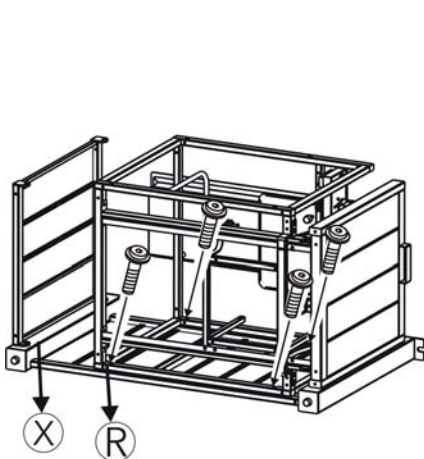
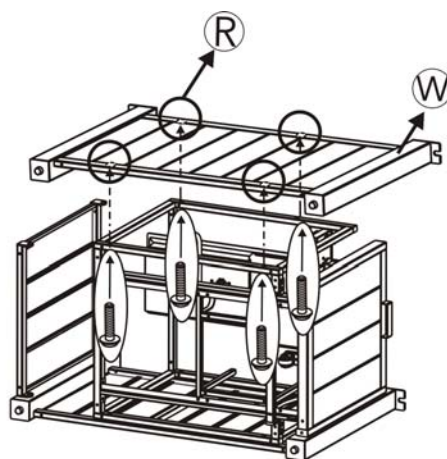
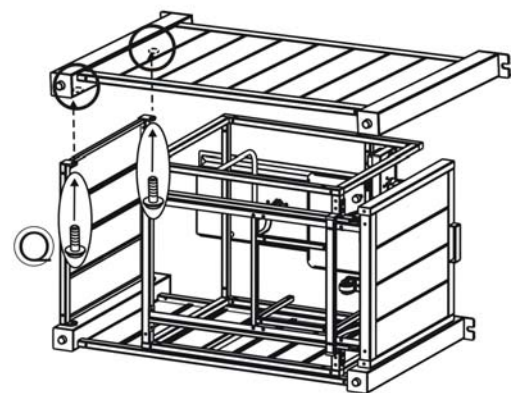

Figure 4a
Figure 4b
Figure 4c
3. Attach the fire pit base connector bracket to the right panel(X) by using four 1/4" x30 mm bolts(R) in Figure 4a. Attach a fire pit base to the left panel(W) by using four 1/4" x30 mm bolts(R) in Figure 4b. Attach a back panel(V) to the left panel(W) by using two 1/4" x20 mm bolts(Q) in Figure 4c. Hand tighten only 2-3 turns.